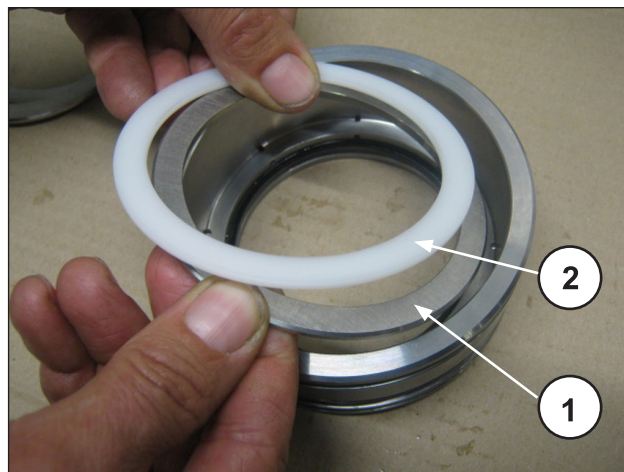
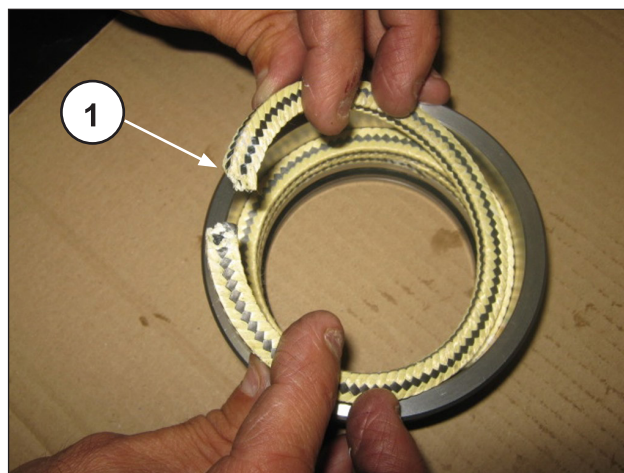

Fig. 250
Fig. 251
Install the support ring and the back-up ring (pos. ①②, Fig. 250), the three packings, making sure the notches are at 120° from each other (pos. ①, Fig. 251), the packing scraper ring and the spring ring (pos. ①②, Fig. 252).